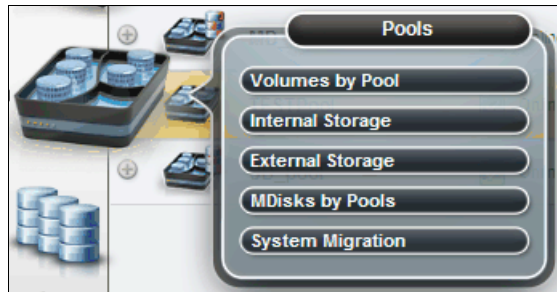

Figure 9-2 Pool menu
1. Hover your cursor over the Pools icon, and the system displays the Pools menu (Figure 9-2). Click **MDisks by Pools**.